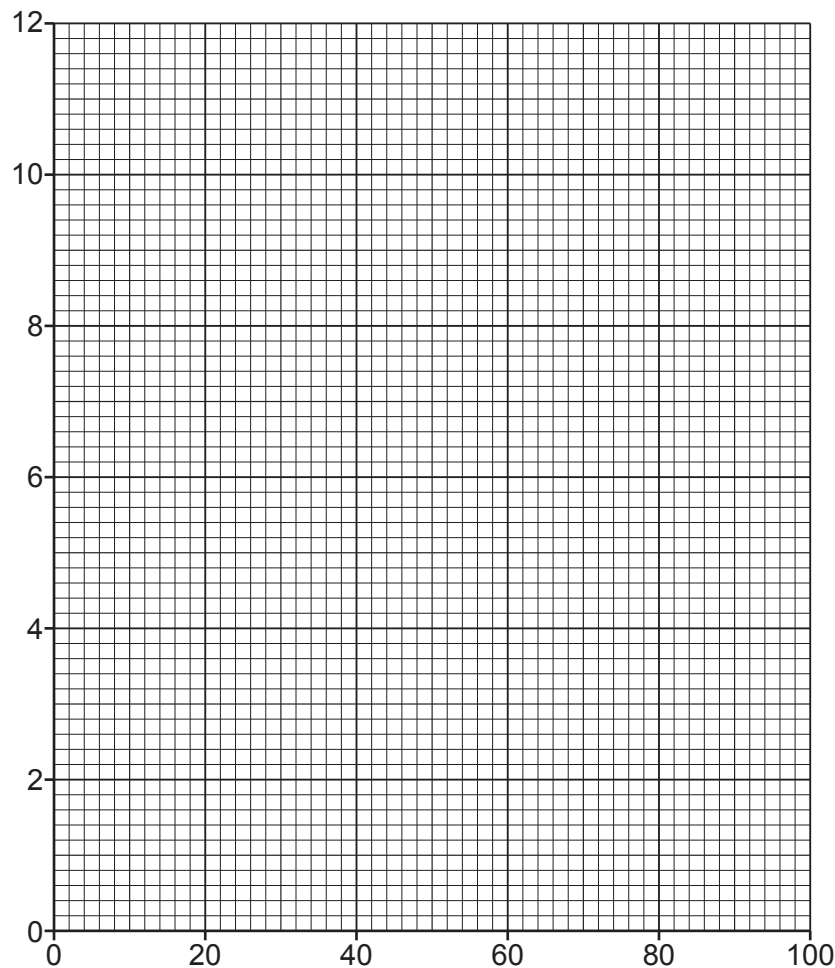
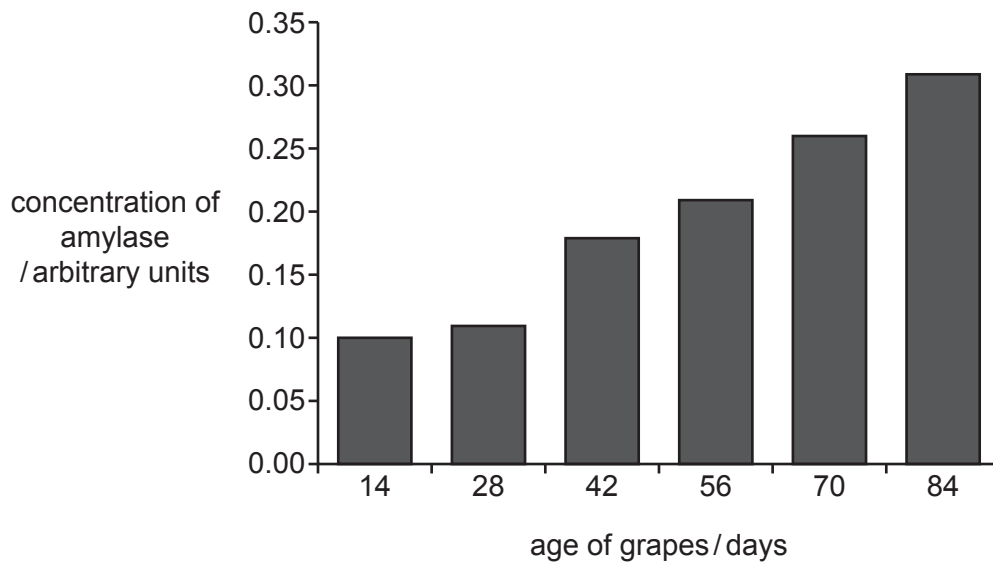

Fig. 1.3
Fig. 1.4
- (i) Plot a graph of the data shown in Table 1.2 on the grid in Fig. 1.3.
The results of the study are shown in Fig. 1.4.
Use the data in Fig. 1.3 and Fig. 1.4 to suggest a possible explanation for the change in the concentration of reducing sugars in grapes as they age.